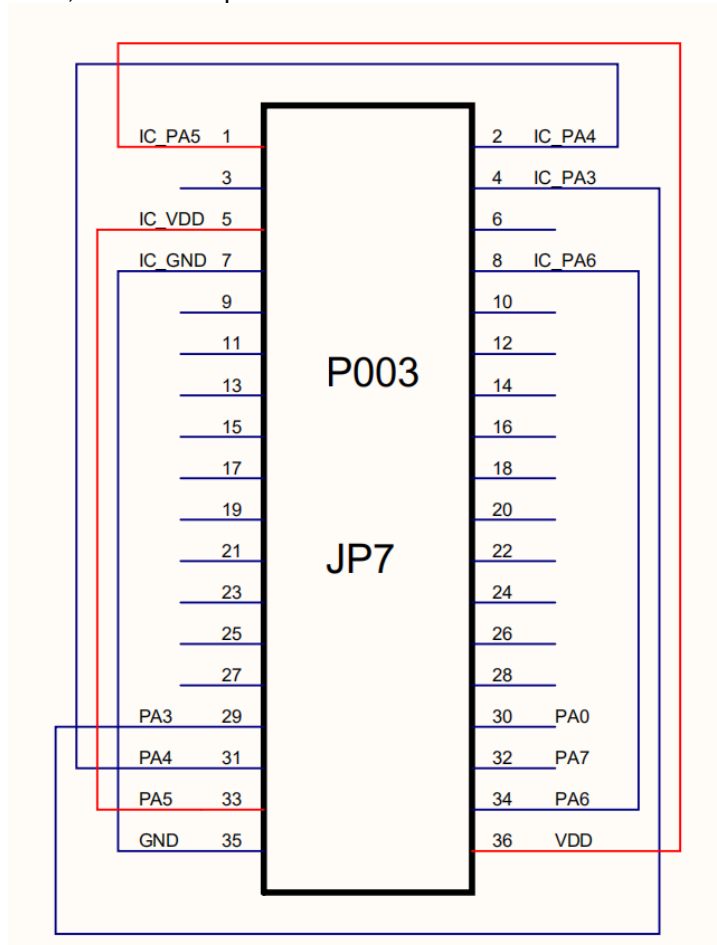

Fig. 27: schematic diagram of PMS160-S08B Jumper7 when using p003
2. As shown in figure 27, it is the Jumper7 connection method.